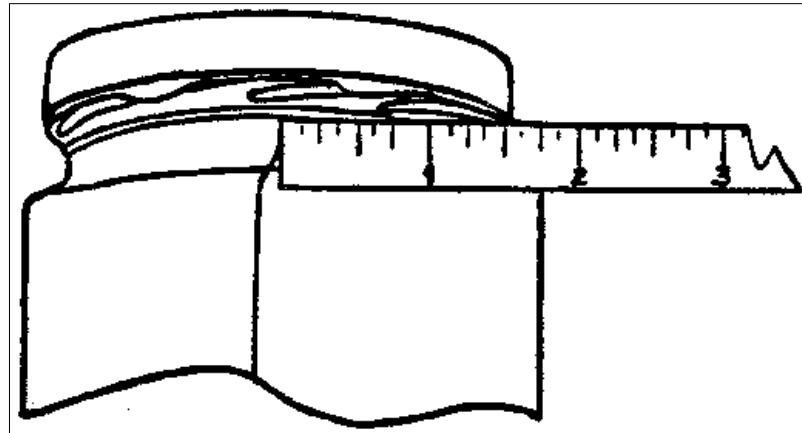

Figure 29. Pull-up lug position of LTD measurement.
4. **Pull-up (lug position) for lug-type twist cap (Fig. 29).** Mark vertical neck ring seam on glass finish. Measure distance from this vertical line, in 1/16 inch increments, to leading edge of cap lug position nearest it. Record lug position measurements made on right side of vertical neck ring seam (as analyst looks at package) as positive (+) and those to left side of parting line as negative (-).